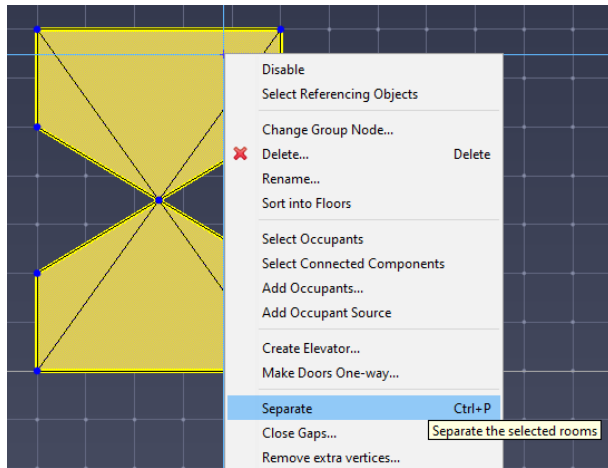

Figure 29. Single room shared point
2. Select **Separate** from either the **Model** menu or the right-click menu (Figure 29).